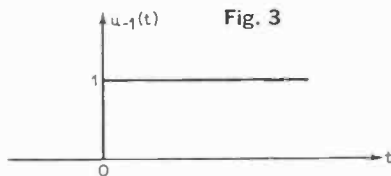

Fig. 3
A. Definition. A unit step function, $u_{-1}(t)$, is equal to 0 for t less than 0 and 1 for t greater than 0 (Fig. 3). This concept is useful in describing, for example, the application of a direct voltage (or direct current) to a circuit. If we let $v = Vu_{-1}(t)$, at t less than 0, $v = 0$ and at t greater than 0, $v = V$. If $i = Iu_{-1}(t)$, $i = 0$ for t less than 0 and $i = I$ for t greater than 0.
A. RC Circuits. To a direct current, a capacitor acts *initially* (time $t = 0$) like a *short circuit*. (1) The product of R and C is called the *time constant*, T , of the circuit: $T = RC$. (2) After a time of approximately $5T$, the circuit is considered to be in *steady state*, and the capacitor acts like an *open circuit*. (3) Steady state is symbolized by $t = \infty$.